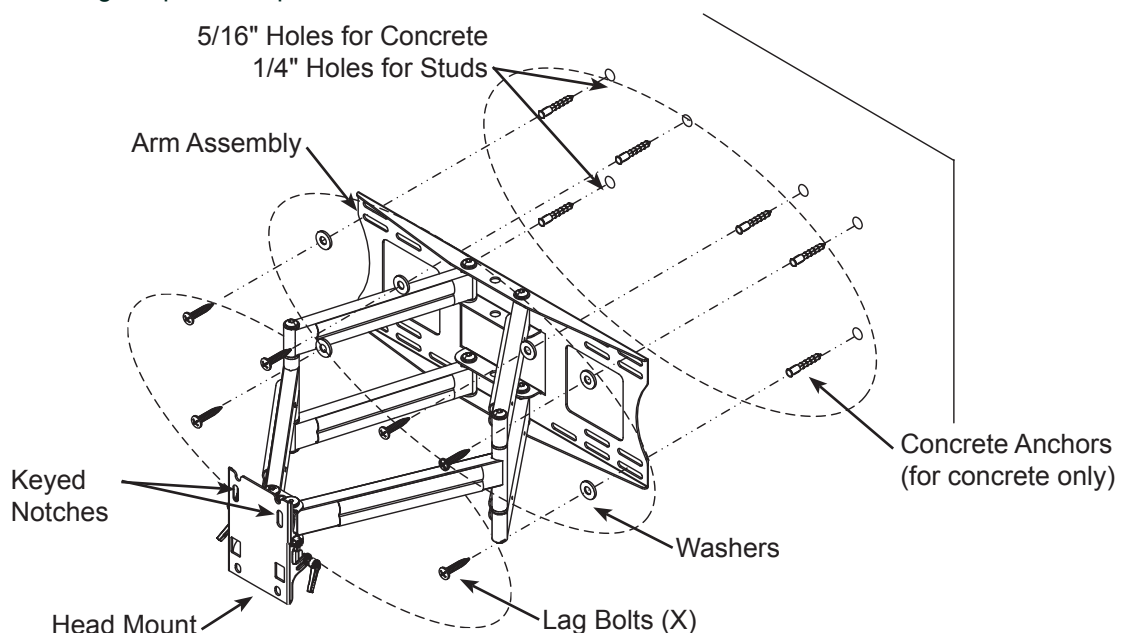

Figure 1
5. Drill holes (Figure 1):
1. Hammer concrete anchors (Y) into wall as applicable (Figure 1).
2. Apply washers (Z) to lag bolts (X).
3. Hold Arm Assembly in place while applying lag bolts (X) with washers (Z).